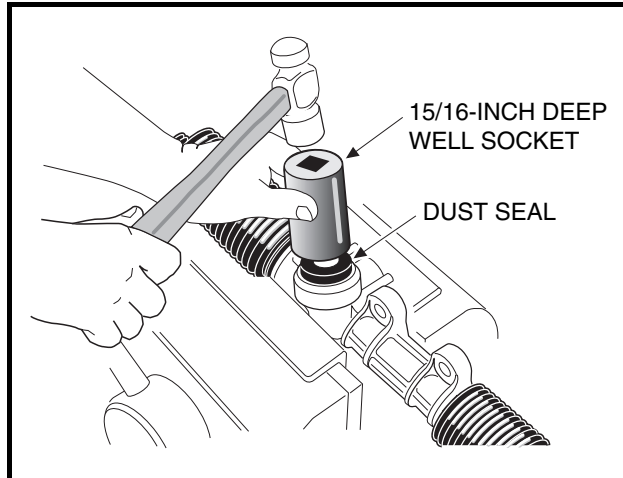

Figure 7-13 Press In Dust Seal
8. Using a socket to apply pressure evenly, press in a new dust seal (Figure 7-13, Page 7-12).